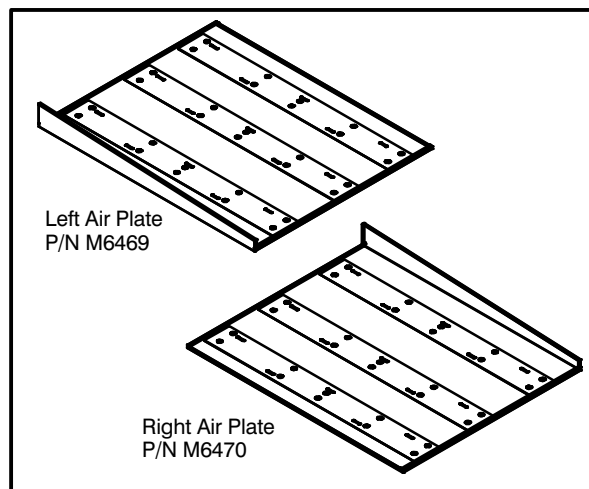

FIGURE 4
*NOTE: Change the air plates whenever the conveyor belt direction of travel is changed. See FIGURE 4.*
Verify that the proper air plates were received. Inspect the orientation of the air plates. Refer to FIGURE 4.